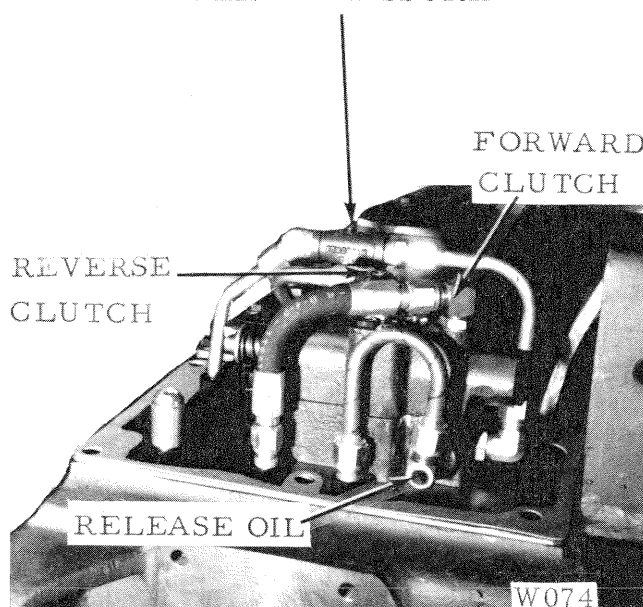

Figure 26
2. Unscrew the plugs covering the check ports. Install gauges in the ports. Fig. 26.